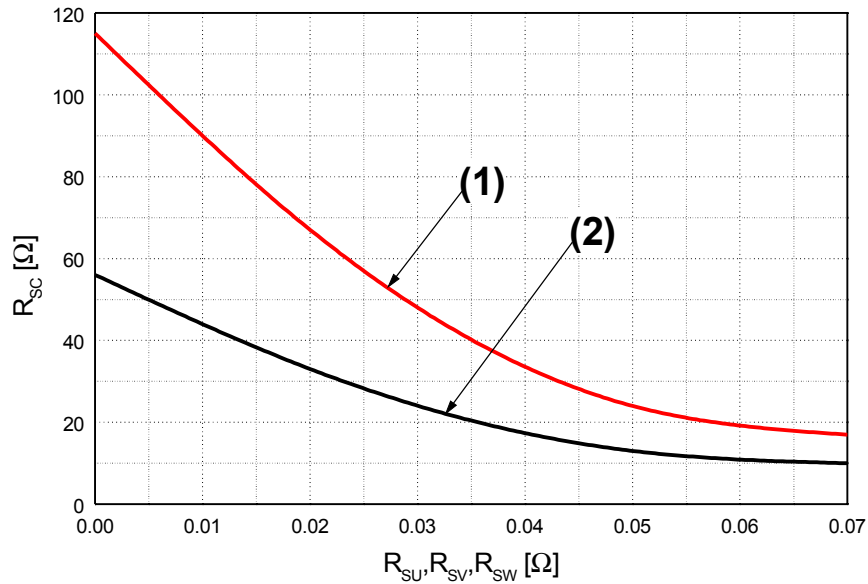

Fig. 7. R_{SC} Variation by change of Shunt Resistors (R_{SU} , R_{SV} , R_{SW}) for Short-Circuit Protection
5. Short-circuit current protection is functioning only at the low-sides. It would be recommended that the value of the external sensing resistor (R_{SC}) should be selected around 56 Ω in order to make the SC trip-level of about 30A at the shunt resistors (R_{SU}, R_{SV}, R_{SW}) of 0 Ω . For the detailed information about the relationship between the external sensing resistor (R_{SC}) and the shunt resistors (R_{SU}, R_{SV}, R_{SW}), please see Fig. 7.